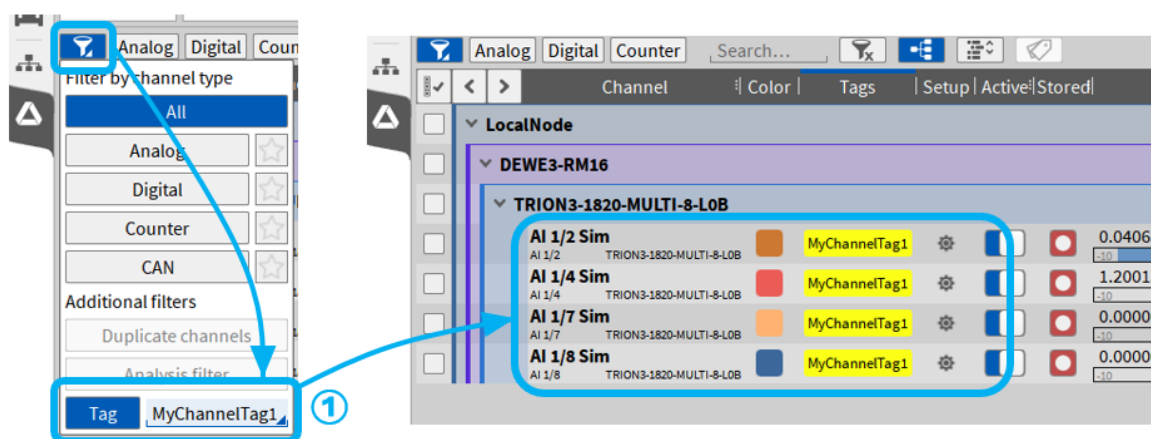

Fig. 7.15: Channel Tags in filter options
When at least one channel Tag has been defined an additional option for the channel Tags will be listed in the filter option section of the OXYGEN channel list (see ① in Fig. 7.15). After selecting a Tag, only those channels will be listed in the OXYGEN channel list, which are assigned to the respective Tag.